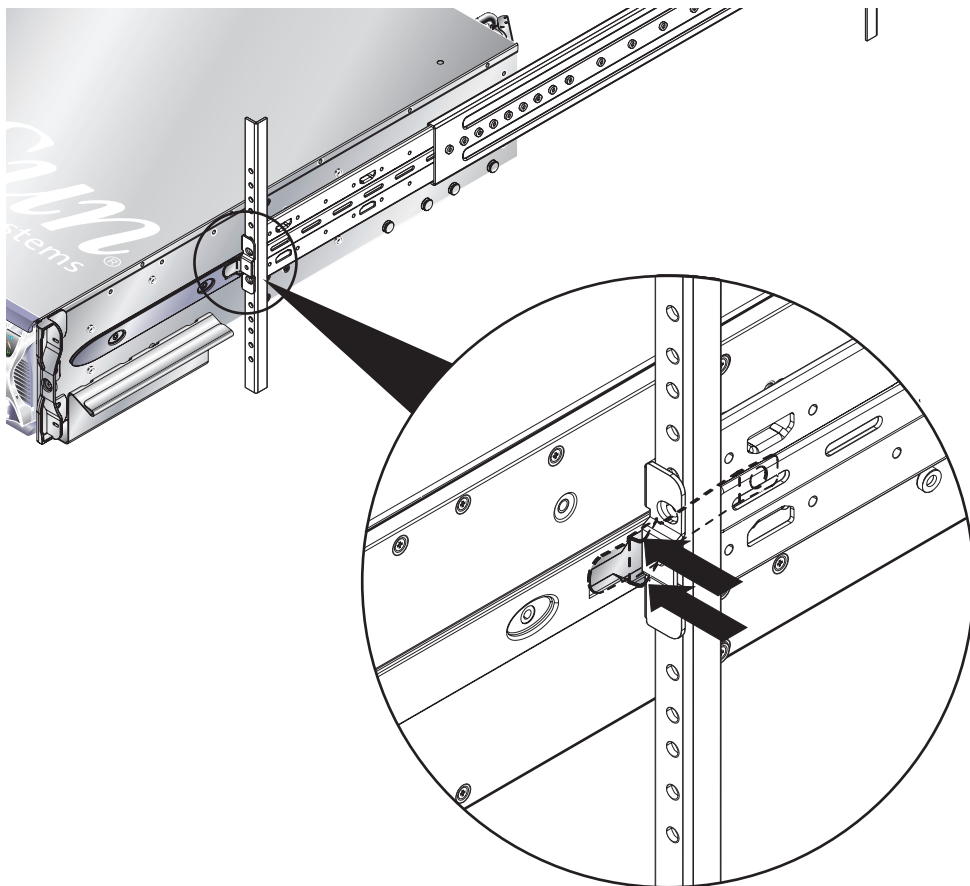

FIGURE 12-18 Releasing the Slide Retaining Catches
2. Slide the system chassis out of the rack (FIGURE 12-18).